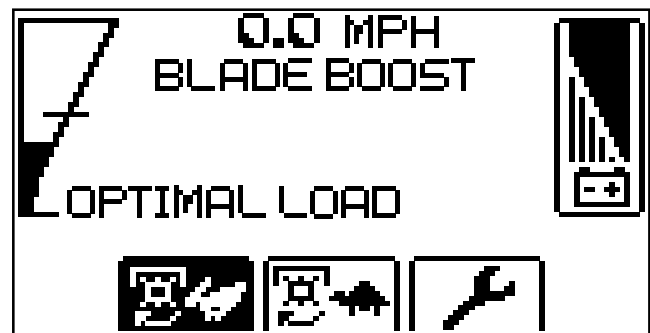

Figure 5-9
1. The rider is equipped with a blades boost function/optimal load that increases the speed of the blade rotation. To engage the blade boost, press the “BLADE BOOST” button below the blade boost icon on the LCD display. When the blade boost is active, the icon will darken. See Figure 5-9.